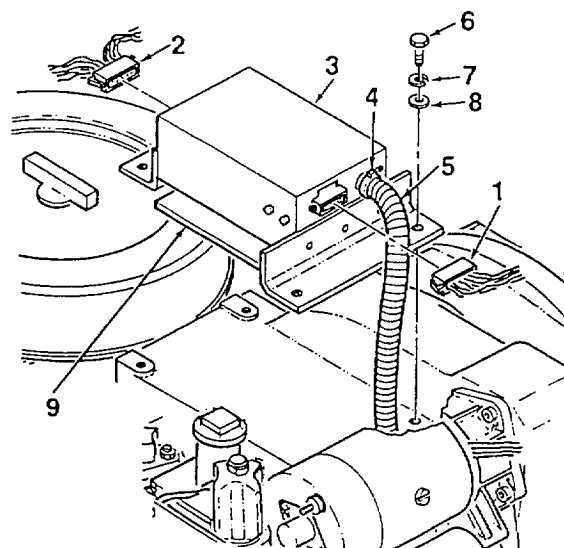

Figure 4-26. Preheat Module
2. Disconnect two electrical connectors (1, 2, Figure 4-26) from preheat module (3).
3. Disconnect ventilation hose (5) from preheat module (3) by loosening clamp (4). It is not necessary to disconnect hose from APU enclosure air vent.
4. Remove preheat module (3) from engine by removing four bolts (6), lockwashers (7), and washers (8). Remove insulating pad (9).
1. Place insulating pad (9, Figure 4-26) onto bottom of preheat module (3) and mate preheat module to engine. Secure using four bolts (6), lockwashers (7), and washers (8).
2. Connect electrical connectors (1, 2) to preheat module (3).
3. Connect ventilation hose (5) to preheat module (3) and tighten clamp (4).